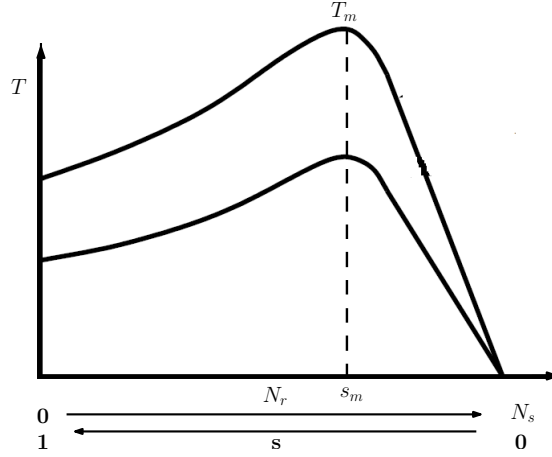

Figure 1: T- $N_r$  characteristics of a three phase induction motor
where  $\omega_s$  is the synchronous speed in rps,  $V_s$  is the voltage applied to the stator,  $I_2, R_2, X_2$  are the rotor current, resistance and reactance referred to stator respectively.  $R_1, X_1$  are the stator resistance and reactance respectively. If (3) is plotted, we get the  $T-N_r$  characteristics as shown in Fig. 1. The maximum torque developed,  $T_m$  and the slip,  $s_m$  at which  $T_m$  occurs is given by (4).